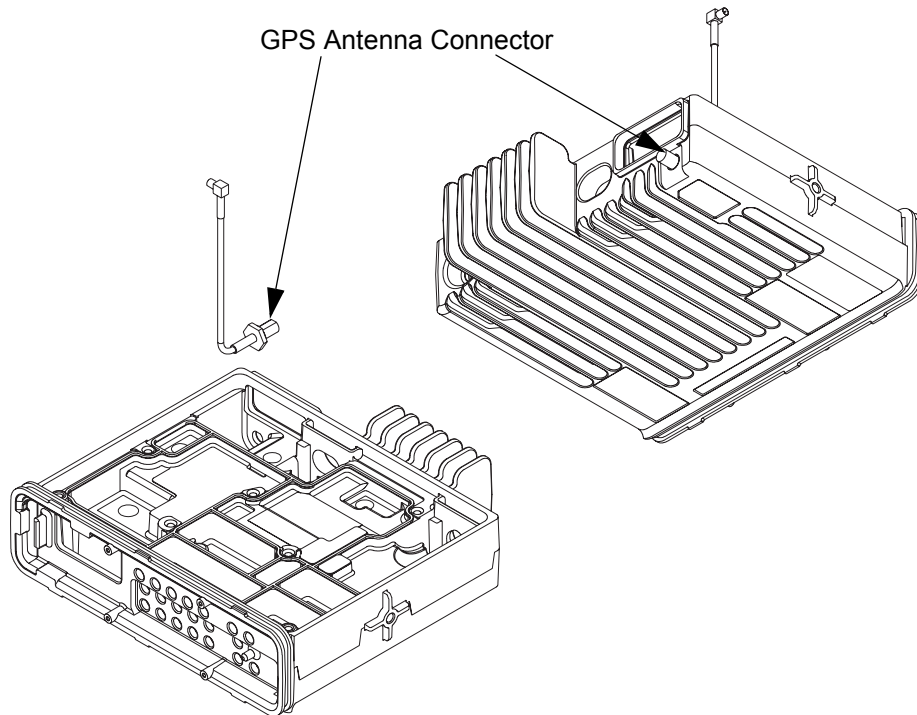

Figure 5-48 GPS Antenna Connector Assembly
- b. Orient the GPS antenna connector as shown in Figure 5-48 and push the connector through the opening in the chassis.